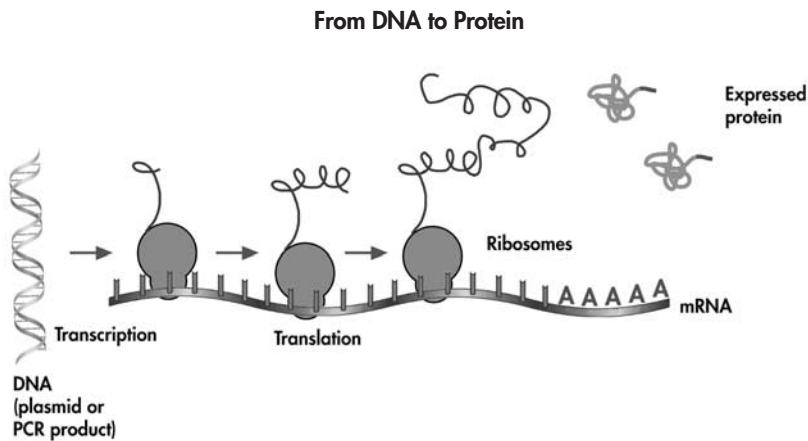

Figure 2 Schematic showing in vitro translation of proteins.
E. coli-based EasyXpress Protein Synthesis Kits use highly productive *E. coli* cell lysates, which contain all translational machinery components (ribosomes, ribosomal factors, tRNAs, aminoacyl-tRNA synthetases, etc.) as well as T7 RNA polymerase. They use a coupled transcription–translation system that can be used to express full-length proteins from T7 or *E. coli* promoters in a single-step reaction using plasmid or linear DNA templates, such as PCR products (Figure 2). Using EasyXpress Protein Synthesis Mini or Maxi Kits, up to 600 µg/ml biologically active protein can be synthesized within 1 hour. The synthesis reaction can be easily scaled up (to produce milligram amounts of protein) or down (for high-throughput screening in 96-well plate format). The amount of protein synthesized increases linearly with reaction volume.